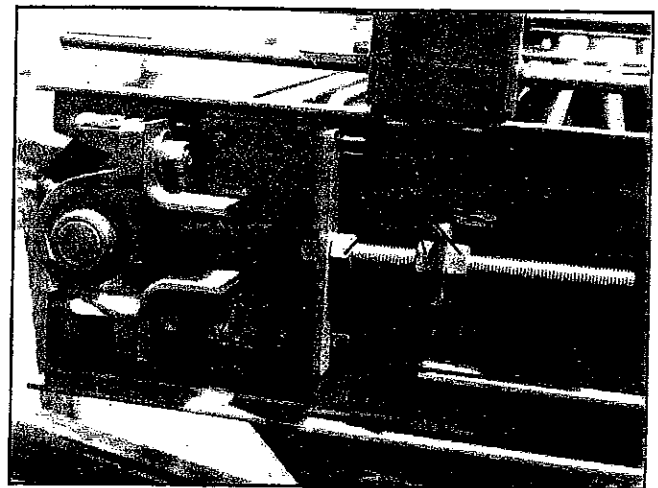

FIGURE 36 - BELTED CHAIN TENSIONING
The belted chain tension is adjusted by loosening nuts (B) then loosening nuts (A). Turn outer nut (A) counterclockwise to increase tension, or clockwise to decrease tension. Tighten nuts (see Figure 36). The belt should be 1" to 2" above the 5" support roller near the bolted joint of the conveyor when empty.